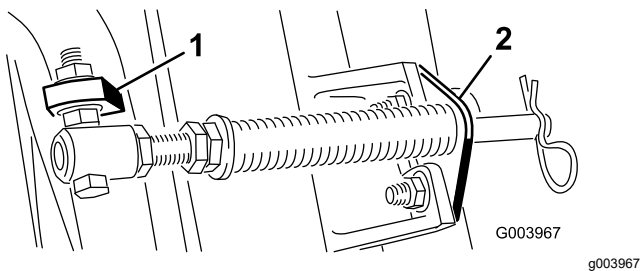

Figure 5
Note: Position the bolt head to the outer side of the tab as shown in Figure 5.
- D. Mount the rod bracket to the cutting-unit tabs with the carriage bolts and nuts (**Figure 5**).